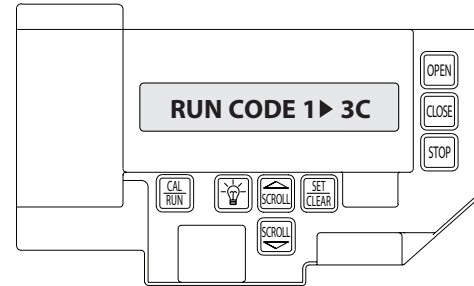

Figure 3
*The run code memory stores the last 10 codes in sequence. Once 10 codes are stored, the oldest code is erased to make room for the newest code. These codes are displayed in calibration mode. The display will flash the number of the run code and the 2-digit run code followed by a description of the run code. **Fig. 3 & 4.***